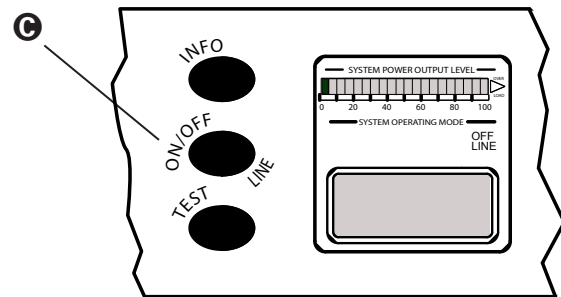

Figure 7-6 Stop Ultrasound Output
1. If the generator is not online, press the ON/OFFLINE mode key, labeled **C** in Figure 7-6. The System Operating Mode ONLINE indicator (**C** in Figure 7-5) will be green.